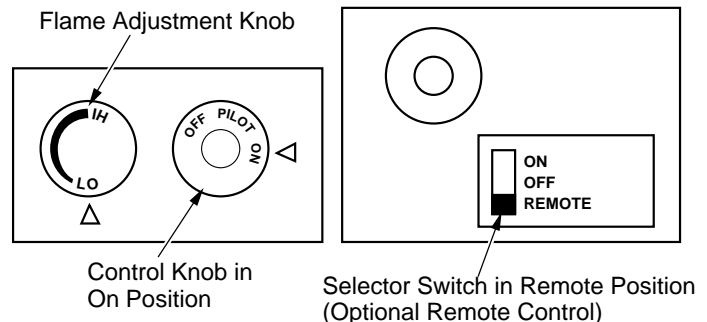

Figure 41 - Setting the Selector Switch, Control Knob, and Flame Adjustment Knob for Remote Operation
1. After lighting, let pilot flame burn for about one minute. Turn control knob to ON position. Adjust flame adjustment knob anywhere between HI and LO. Slide the selector switch to the REMOTE position (see Figure 41). **Note:** The burner may light if hand-held remote ON button was on when selector switch was last turned off. You can now turn the burner on and off with the hand-held remote control unit. **IMPORTANT:** Do not leave the selector switch in the REMOTE position when the pilot is not lit. This will drain the battery. **IMPORTANT:** Be sure to press the ON/OFF buttons on the hand-held remote control unit for up to 3 seconds to assure proper operation.